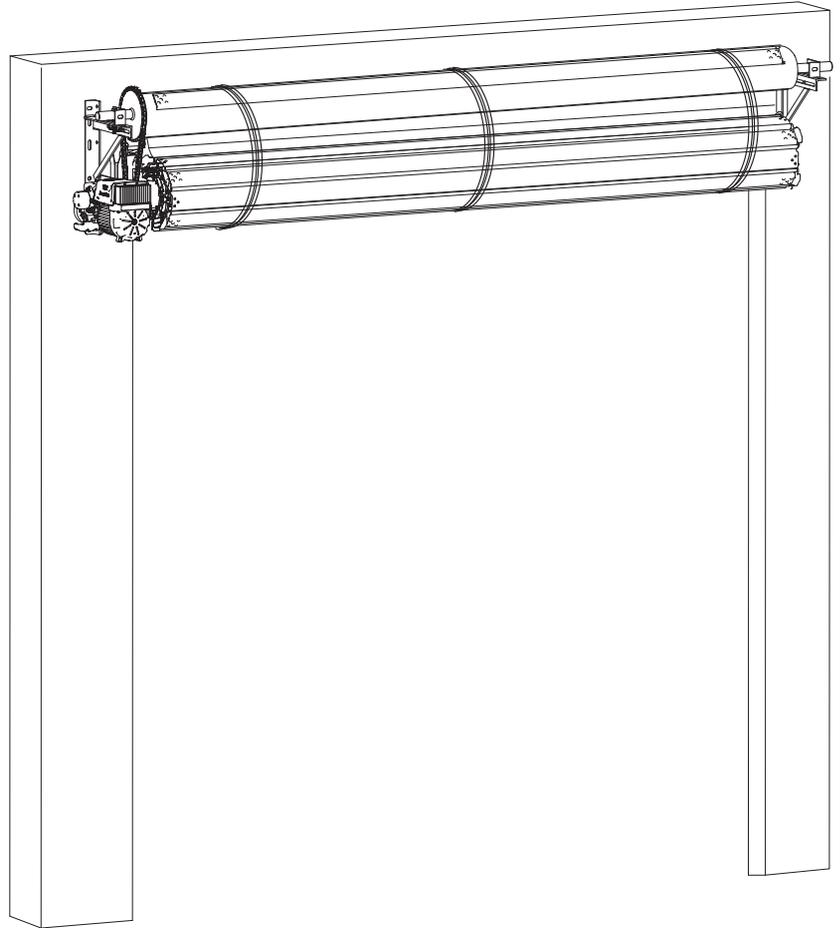

Fig: 2.5.2
- b) Carefully lift to within 300mm under the drum, Figure 2.5.2, by means of two other lengths of heavy gauge rope sling the curtain roll up to the drum as shown in the illustration. Make sure the end of the curtain is on top of the roll and able to be raised up.